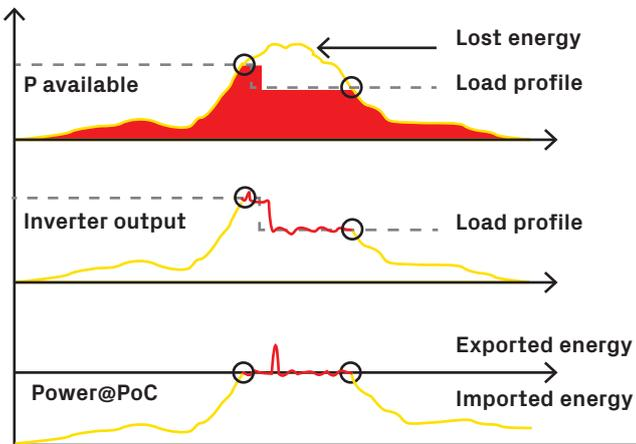

Figure 1 - Export limitation example
Many distribution network operators (DNOs) limit the generator size or the amount of power allowed to be exported. Export limitation is a control function that limits the overall power exported into the grid and meets the grid code requirements. When a grid code requires an export limit to be set, it is possible to satisfy the requirement with FIMER inverters and a meter, without the need for external controllers or additional devices. An example of an export limitation with no injection is provided in **Figure 1 - Export limitation example**, where the inverters follow the load consumption to guarantee that no power is exported at the Point of Connection.
**NOTE:** As shown in **Figure 1 - Export Limitation example**, it is not possible to completely avoid exceeding the export limit in case of a sudden change in the load but the time the power exceeds the export limit is constrained by the control.